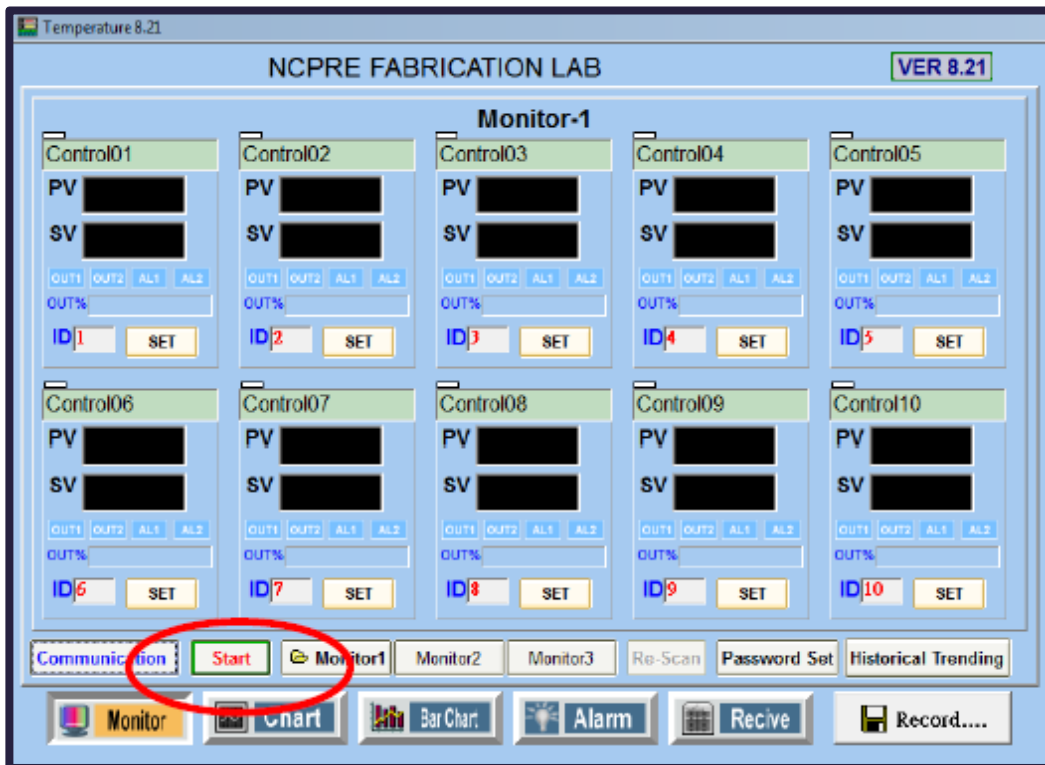

Figure. 17
- Establish the communication between the software on the computer system and the hardware of the furnace temperature controller by clicking on “Start” tab in the window below of the “Monitor” tab (Figure. 17).